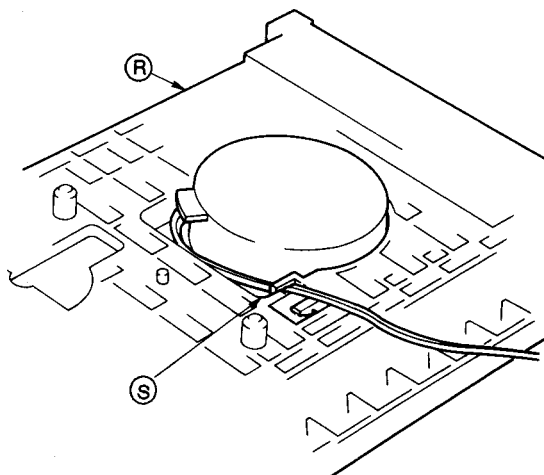

Fig. 1-7
5. Remove the lead wire from the lead wire hook ⑬ (Fig. 1-7) for the spindle motor at the rear of the mechanism base ⑮.
4. While the servo-mechanism unit is raised, hook the lead wire from the spindle motor to hook ⑤ (Fig. 1-7) on the rear of the mechanism base ④.